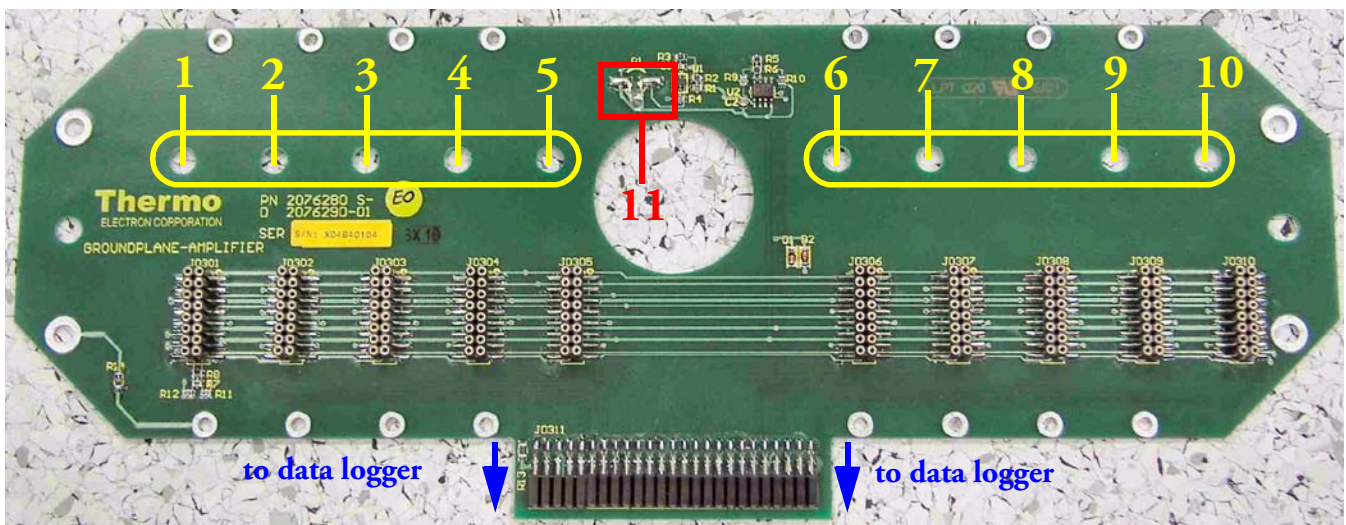
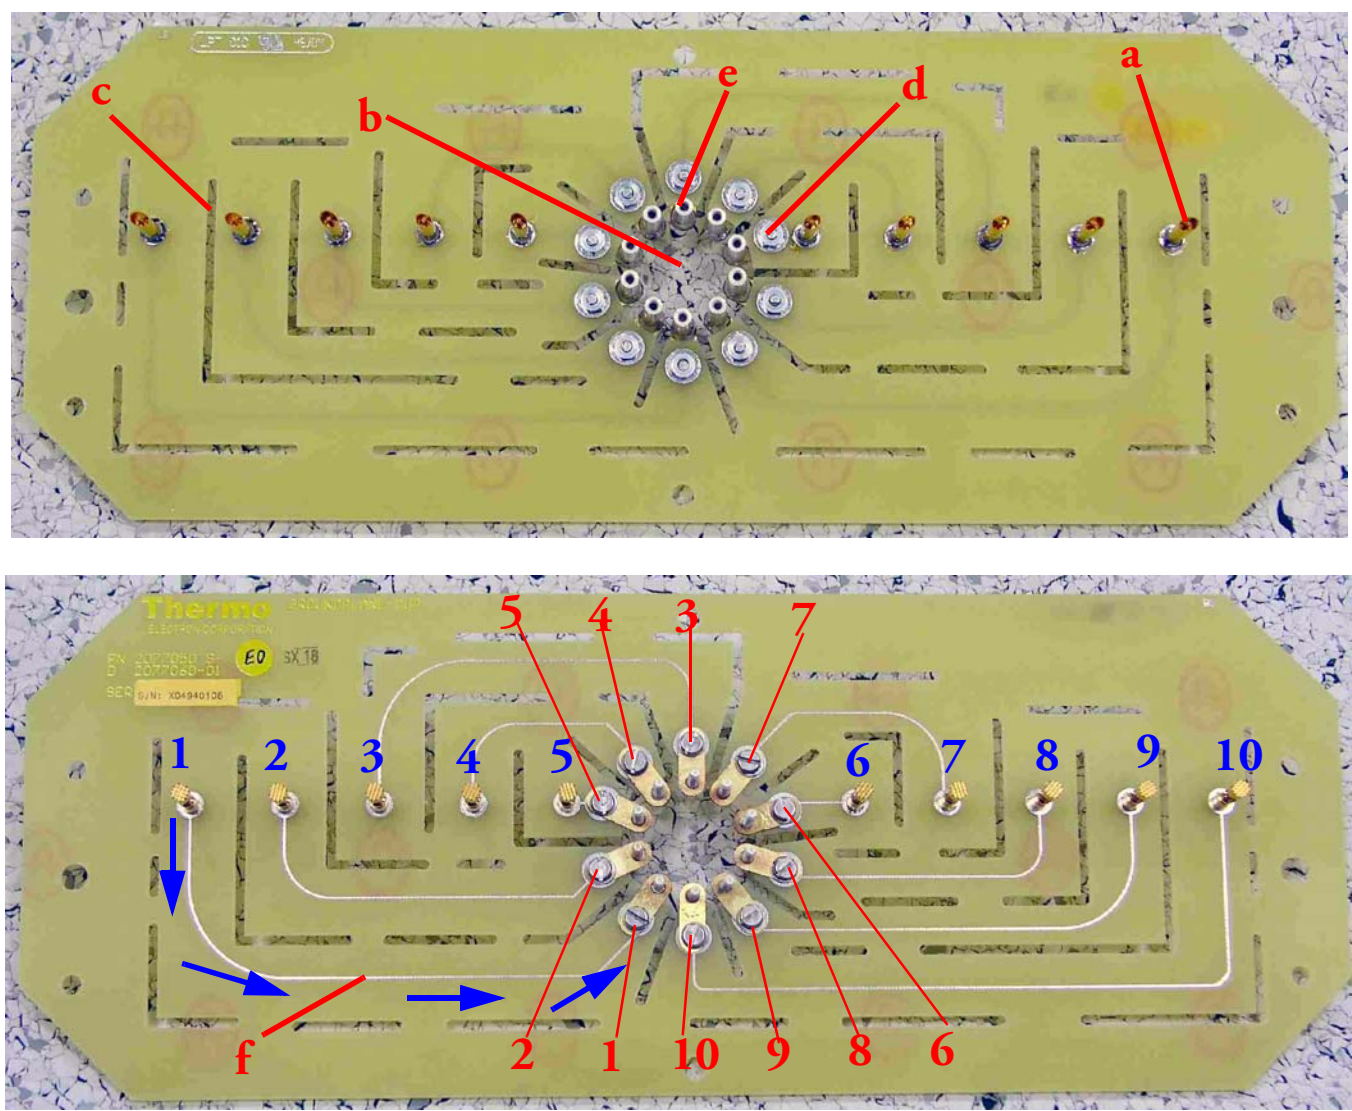

Figure 2-9. Ground Plane Amplifier with Amplifier Numbers
Figure 2-11. Ground Plane Cup
Table 2-11 summarizes the assignment of amplifiers on ground plane cup according to Figure 2-11.
^{*} Example of Universal Triple collector plus HD. Refer to Figure 2-11 and Figure 2-9.
Behind the ten amplifiers, ground plane amplifier, Figure 2-9, is located. This electronic board guarantees their supply voltages and establishes the connection to the data logger.
Ground plane amplifier carries the ten amplifiers and VFCs and connects the amplifiers to the data logger. A photo diode, **11** in Figure 2-9, switches off the supply voltage when the lid of the amplifier housing is removed. It serves as an additional precaution and only works properly when the workplace is sufficiently lit.
- The **amplifiers** are stuck onto ground plane amplifier according to Figure 2-9 and Figure 2-11 (the contact springs protrude a little out of ground plane amplifier).
- **Ground plane amplifier** is arranged directly above **ground plane cup**. See Figure 2-11.
Below ground plane amplifier, ground plane cup is arranged. It is shown in Figure 2-11 and establishes the transfer between 13-fold feedthrough and the ten individual amplifiers. The yellow board is free of lacquer for technical reasons and contains only a few components summarized in Table 2-12.
Note On ground plane cup, springs and contact pins are connected via conducting paths, f in Figure 2-9. There are longer and shorter conducting paths: highly sensitive amplifiers have been connected via short conducting paths! ▲
Number in Figure 2-11	Designation
* Refer to Figure 2-11.